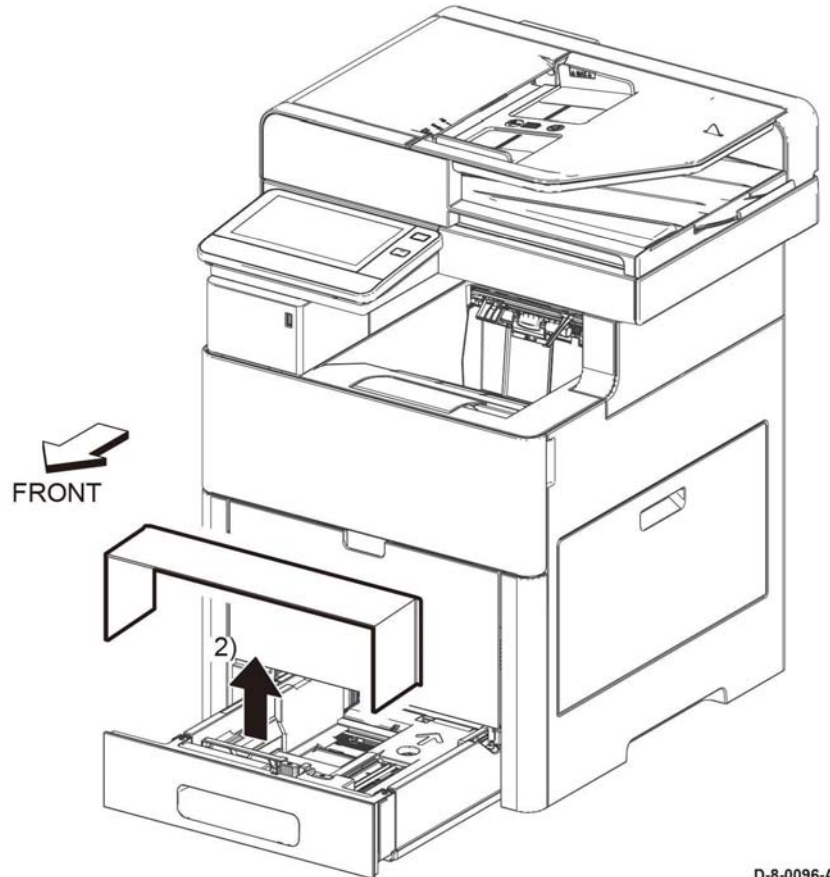

Figure 1 Remove the legal paper tray dust cover
2. Release the latches that hold the legal paper tray dust cover to the cassette, and remove the cover, Figure 1.